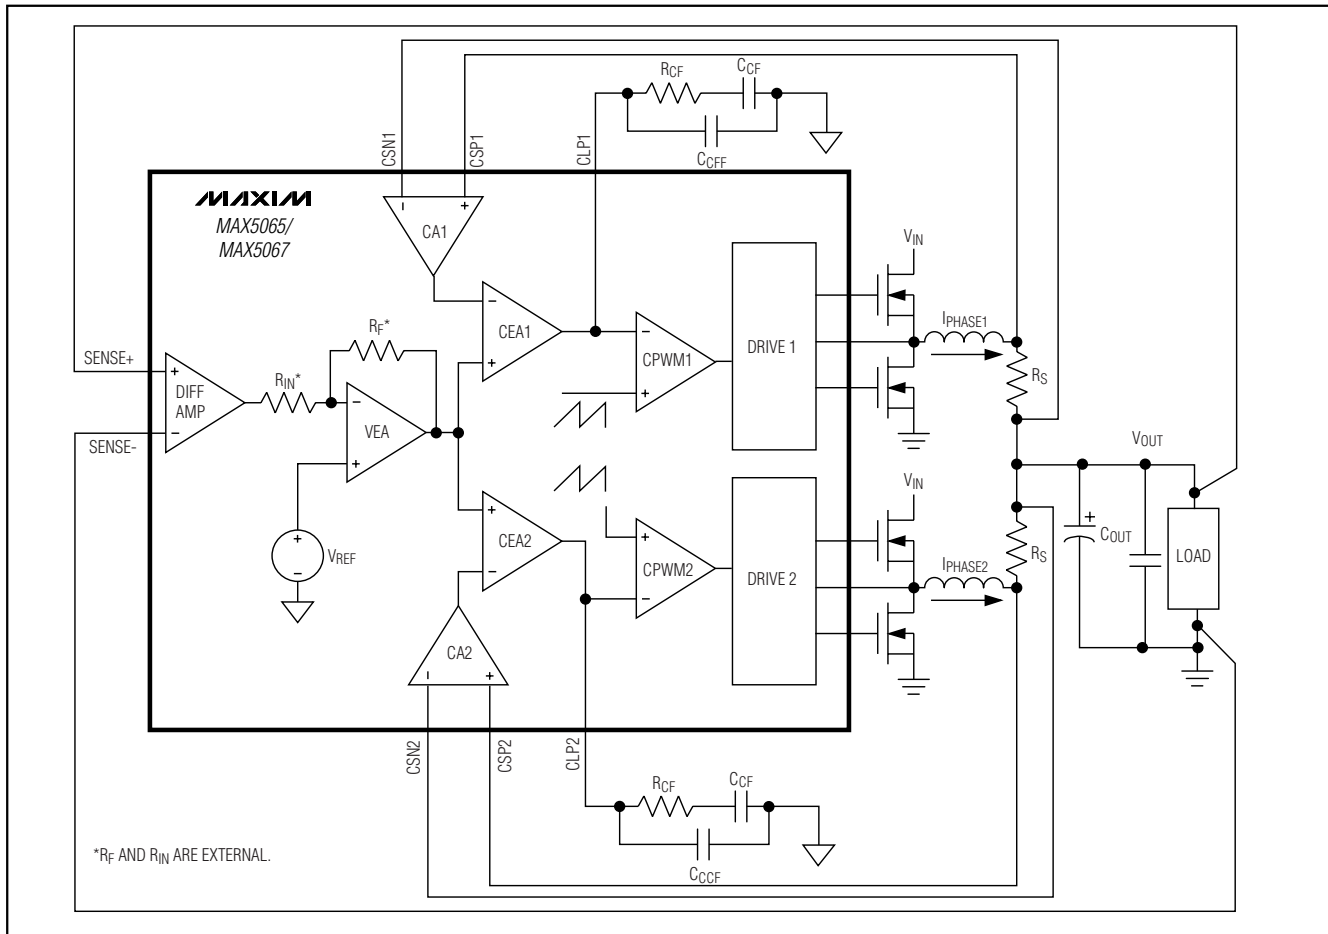

Figure 4. MAX5065/MAX5067 Control Loop
The MAX5065/MAX5067 use an average-current-mode control scheme to regulate the output voltage (Figure 4). The main control loop consists of an inner current loop and an outer voltage loop. The inner loop controls the output currents ( $I_{PHASE1}$  and  $I_{PHASE2}$ ) while the outer loop controls the output voltage. The inner current loop absorbs the inductor pole reducing the order of the outer voltage loop to that of a singlepole system.
The outer voltage control loop consists of the differential amplifier (DIFF AMP), reference voltage, and VEA. The unity-gain differential amplifier provides true differential remote sensing of the output voltage. The differential amplifier output connects to the inverting input (EAN) of the VEA. The noninverting input of the VEA is internally connected to an internal precision reference voltage. The MAX5067 reference voltage is set to +0.8V and the MAX5065 reference is set to +0.6V. The VEA controls the two inner current loops (Figure 4). Use a resistive feedback network to set the VEA gain as required by the adaptive voltage-positioning circuit (see the *Adaptive Voltage Positioning* section).
Each phase of the MAX5065/MAX5067 has a dedicated transconductance current-error amplifier (CEA\_) with a typical  $g_m$  of 550 $\mu$ S and 320 $\mu$ A output sink and source current capability. The current-error amplifier outputs, CLP1 and CLP2, serve as the inverting input to the PWM comparator. CLP1 and CLP2 are externally accessible to provide frequency compensation for the inner current loops (Figure 4). Compensate CEA\_ so the inductor current down slope, which becomes the
The differential amplifier (DIFF AMP) facilitates output voltage remote sensing at the load (Figure 4). It provides true differential output voltage sensing while rejecting the common-mode voltage errors due to high-current ground paths. Sensing the output voltage
The VEA output clamps to +0.9V relative to VCM (+0.6V), thus limiting the average maximum current from individual phases. The maximum average current-limit threshold for each phase is equal to the maximum clamp voltage of the VEA divided by the gain (18) of the current-sense amplifier. This results in accurate settings for the average maximum current for each phase. Set the VEA gain using RF and RIN for the amount of output voltage positioning required within the rated current range as discussed in the *Adaptive Voltage Positioning* section (Figure 4).
Average-current-mode control has the ability to limit the average current sourced by the converter during a fault condition. When a fault condition occurs, the VEA output clamps to +0.9V with respect to the common-mode voltage ( $V_{CM} = +0.6V$ ) and is compared with the output of the current-sense amplifiers (CA1 and CA2) (see Figure 4). The current-sense amplifier's gain of 18 limits the maximum current in the inductor or sense resistor to  $I_{LIMIT} = 50mV/R_S$ .